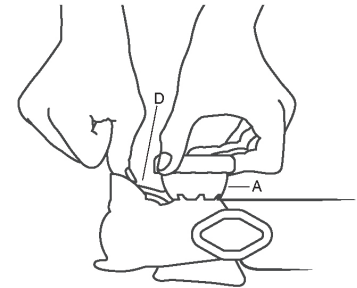

Figure 12
To release the HANDWHEEL Style coupler from the hitch-ball, press down on the latch (D) while rotating the handwheel (A) counter-clockwise. (Figure 12) Continue turning the handwheel, about ten full revolutions, until it backs off against the roll pin. Next, lift the coupler completely off the hitch-ball, then carefully lower the trailer tongue to the ground.